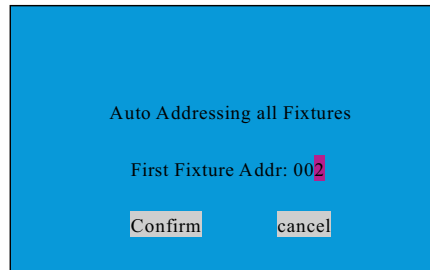

Figure C. 5
1. Automatically and sequentially addressing all fixtures(Figure C.5),you should set the start address, then controller will address all fixtures according to physical connection sequence, address will be increased by "digit" which is the DMX channel of the fixture. The lights will work on 100% green color after addressing is OK